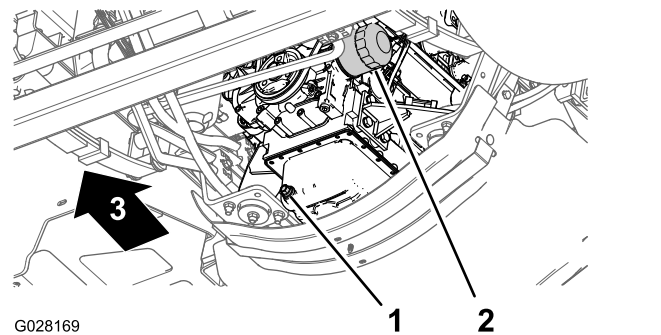

Figure 75
3. Align a drain pan under the engine oil filter (Figure 75).
4. Remove the old oil filter (Figure 75).
8. Install the oil filter to the filter adapter and turn the oil filter clockwise until the rubber gasket contacts the filter adapter, then tighten the filter an additional 1/2 turn (Figure 75).
1. Align a drain pan under the drain plug (Figure 75).
2. Remove the drain plug (Figure 75) and allow the oil to drain completely.